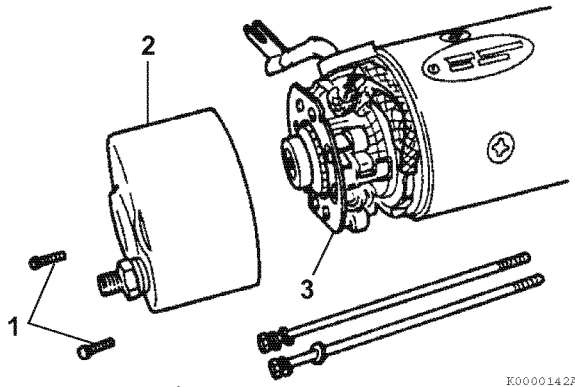

Figure 10-5
4. Remove the two bolts (Figure 10-5, (1)) securing the rear cover (Figure 10-5, (2)) to the brush holder assembly (Figure 10-5, (3)).
5. Remove the two through bolts. Remove the rear cover (Figure 10-5, (2)).